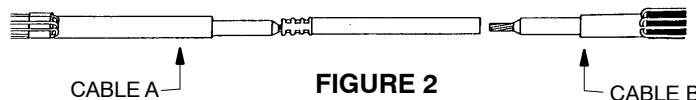

FIGURE 2
- For single phase cables, train the concentric wires in two bundles each side, 5 wires per bundle. See Figure 2. For three phase cables, train the concentric wires in one 6 wire bundle.
- Strip cables for splicing per Figure 2, clean cables – DO NOT USE SILICONE SPRAY ON CABLES OR SPLICE BODY.
4. For single phase cables train the concentric wires in two bundles each side, 5 wires per bundle. See Figure 2. For three phase cables train concentric wires in one 6 wire bundle.
6. Strip cables for splicing per Figure 2, clean cables – DO NOT USE SILICONE SPRAY ON CABLES OR SPLICE BODY. Prior to installing the connector, clean the exposed conductor with a stainless steel wire brush. Some splice kits may contain a small disposable stainless steel wire brush, if so, it should be used. If there is no wire brush in the kit use one of the stocked stainless steel wire brushes.
4. Install the connector on Cable A only and crimp using Y-35 handpress with U-25 ART die or B24EA die as shown in Figure 2. Wipe off excess inhibitor and file flashing down.